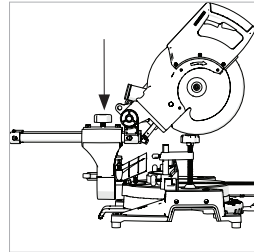

Fig. 24
- Tighten the slide lock screw. **(Fig. 24)**